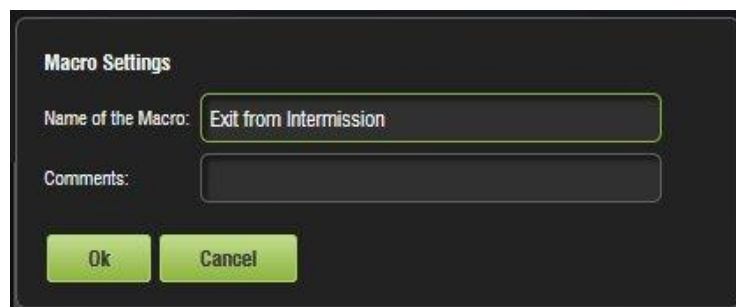

Figure 259: Exit from Intermission Macro
- Name the Macro, “Exit from Intermission” and click Ok (Figure 259).